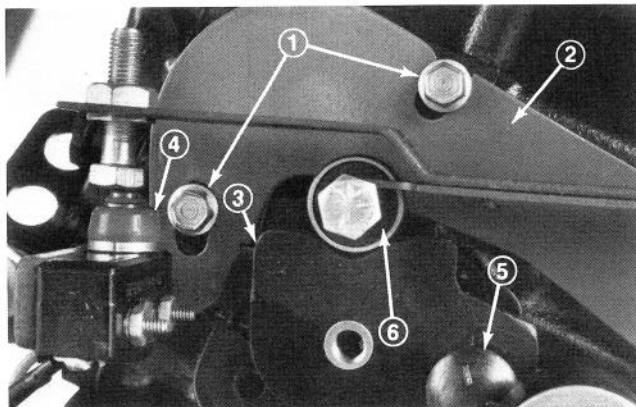

Figure 70
4. With engine OFF, loosen nut on carriage bolt and allow bearing to locate cam (Fig. 70). Carefully tighten nut on carriage bolt.
5. Loosen screws to allow neutral device bracket to move; but not freely (Fig. 70). Adjust neutral device bracket so that $40 \pm$ in-lb of torque on control lever just starts to rotate lever. Tighten screws.